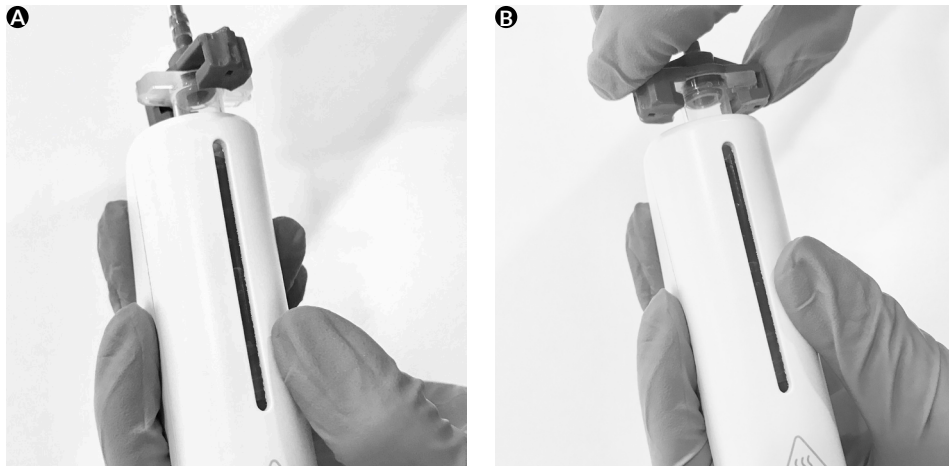

Figure 11: Attaching the 3-mL pneumatic adapter to the cartridge.
4. Connect the cartridge to the pneumatic adapter by twisting the adapter on the end of the cartridge (Figure 11).